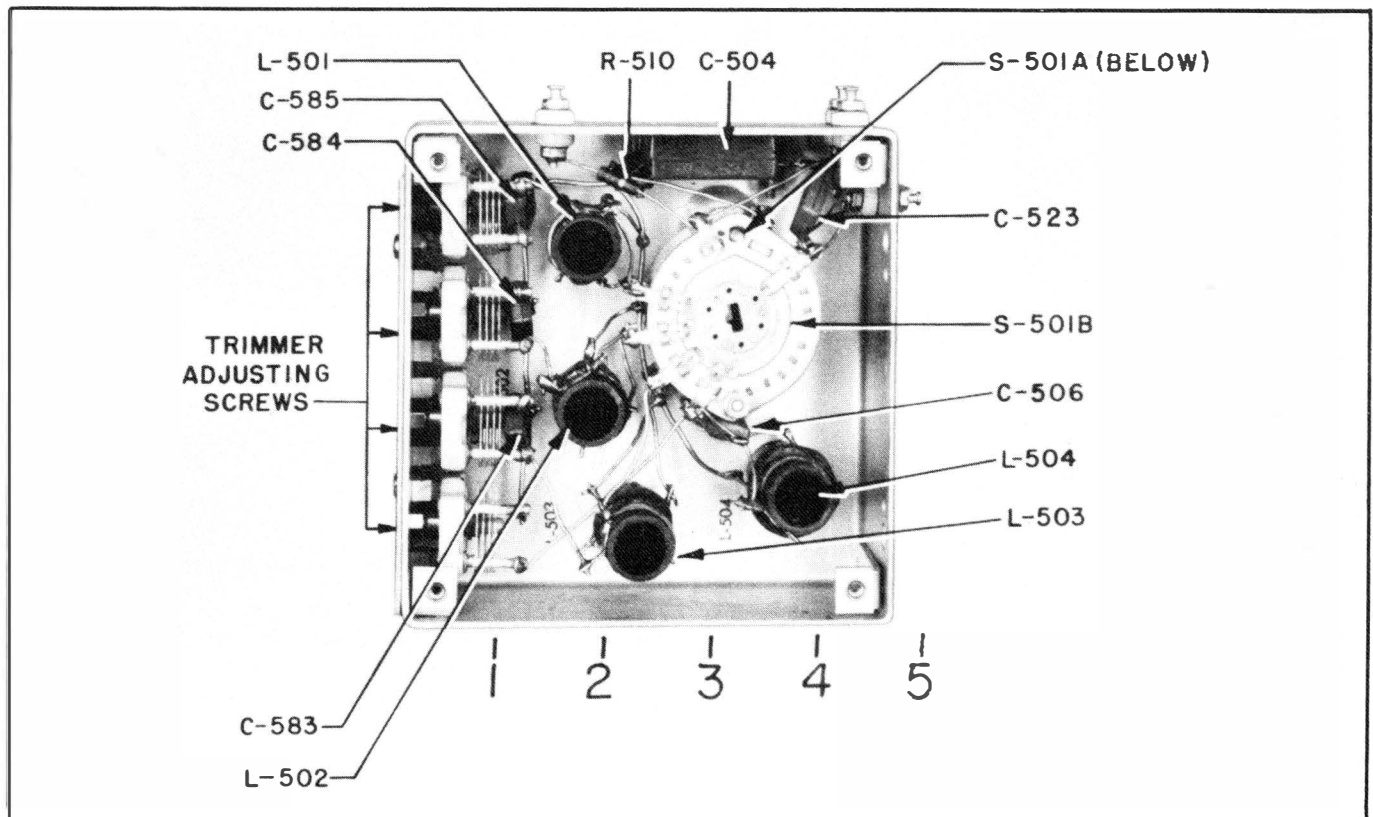
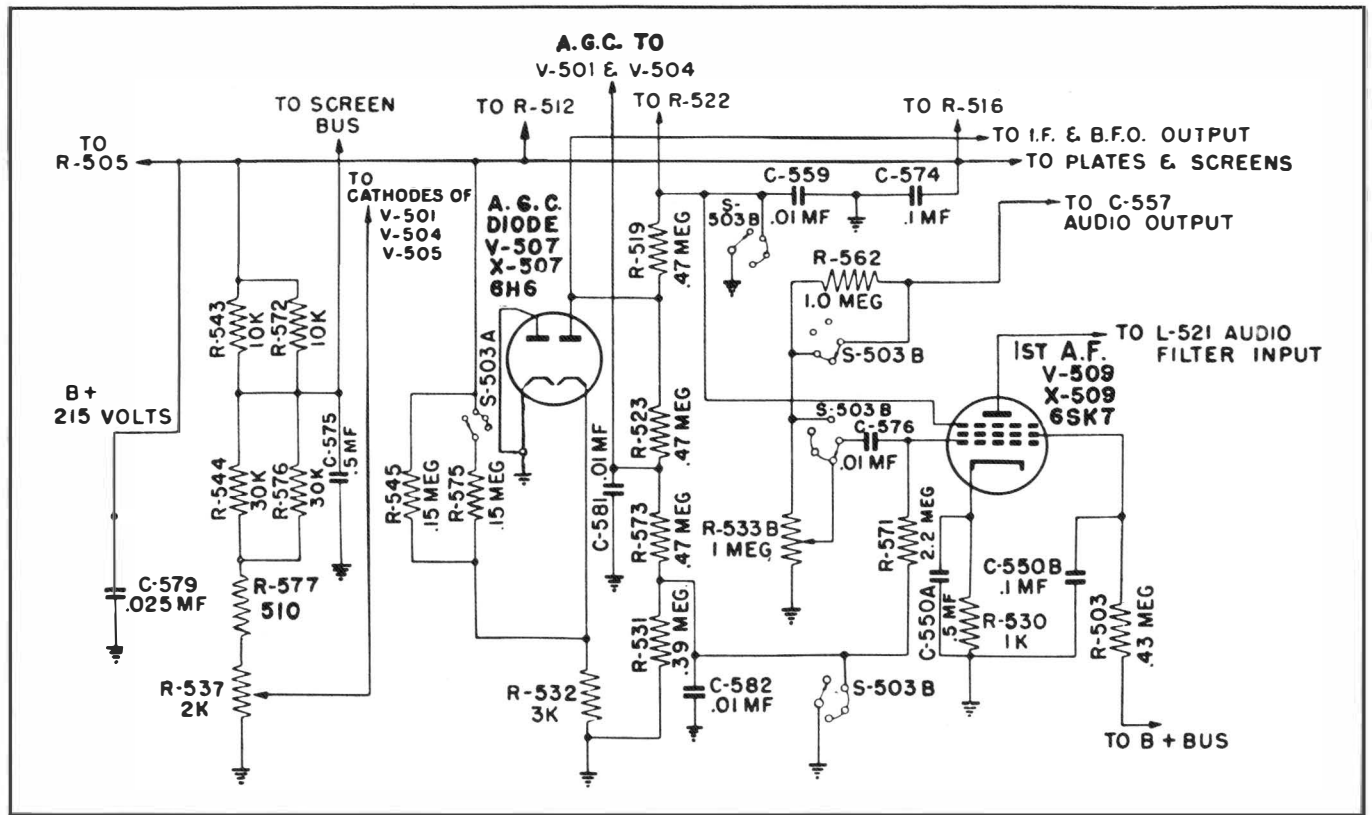

Figure 2-4. Antenna Transformer Assembly, T-501
Figure 2-6. Automatic Gain Control Circuit
The signal from the antenna terminal E-517 marked "ANT" on the front panel of the receiver, passes through the frequency band switch section S-501A to the untuned primary of antenna transformer assembly T-501 (See Figure 2-4). From the secondary of the transformer, which is tuned by section C-512A of the four gang tuning capacitor, the signal passes through switch section S-501B and the coupling capacitor C-523 to the grid of the 6SG7 R.F. amplifier tube, V-501. The 3 to 17 micromicrofarad variable capacitor C-501, connected from the grid of tube V-501 to ground, and controlled by the "ANT COMP" knob on the panel, tunes the antenna circuit. The D.C. voltage developed by the A.G.C. circuit (Figure 2-6) is applied to tube
e. THE AUTOMATIC GAIN CONTROL CIRCUIT (V-507). (See Figure 2-6).
f. THE FIRST AND SECOND AUDIO AMPLIFIER CIRCUITS (V-509). (See Figures 2-6 and 2-12).